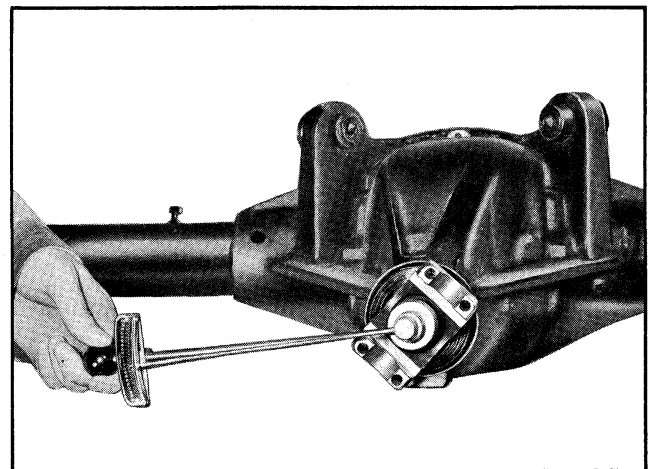

Fig. 4-41 Checking Pinion Bearing Preload
6. Check preload by using a lb. in. torque wrench as shown in Fig. 4-41.